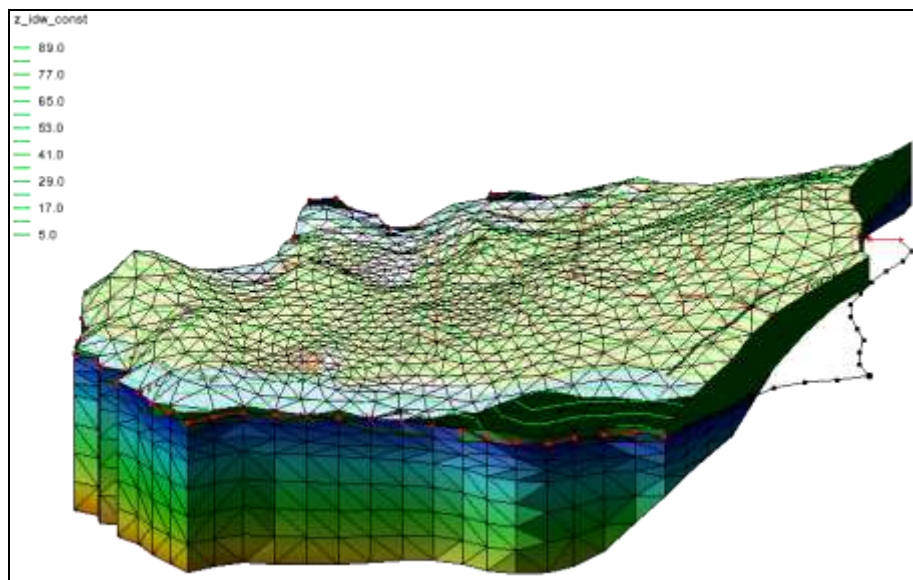

Figure 13 TIFF image draped and the 3D mesh rotated
7. Use the **Rotate**  tool to click and drag horizontally to the left side of the screen until the other side of the model is visible (Figure 13).